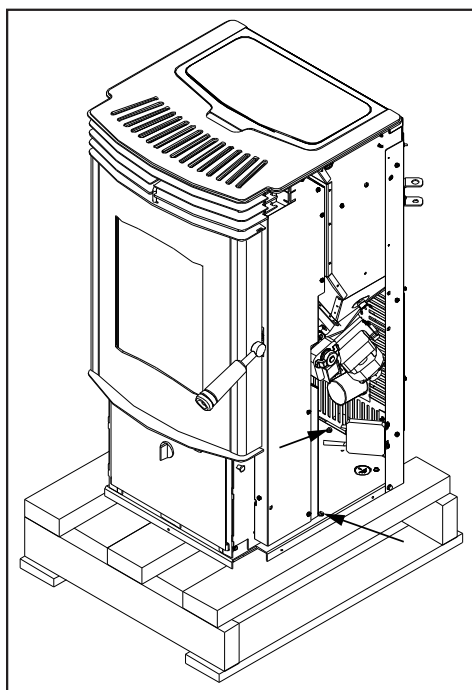

Figure 16: Screws to take out to remove stove from pallet.
4. Using a $\frac{5}{16}$ " socket or flat head screwdriver, remove the three (3) wood screws that are holding the bottom of the stove to the pallet. There is one (1) screw behind each side panel and one (1) at the back behind the back grill (refer to Figure 16).